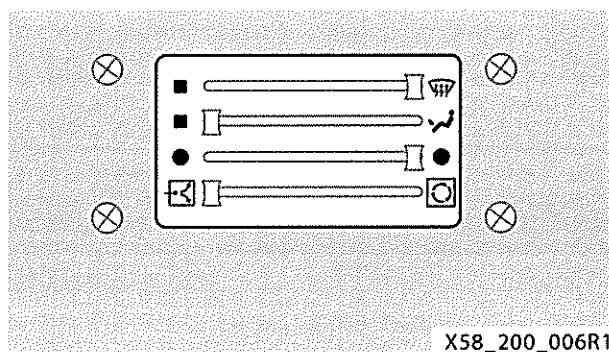

Fig 6 Heating/ventilation operation defroster
- 17 Refer to Fig 6. To defrost or demist the windows, proceed as follows: